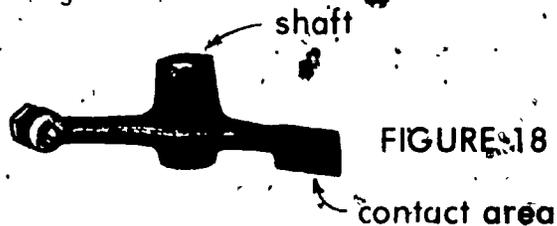

FIGURE 18
2. Measure shaft bore with telescoping gauge and micrometer or dial indicator (Figure 18)